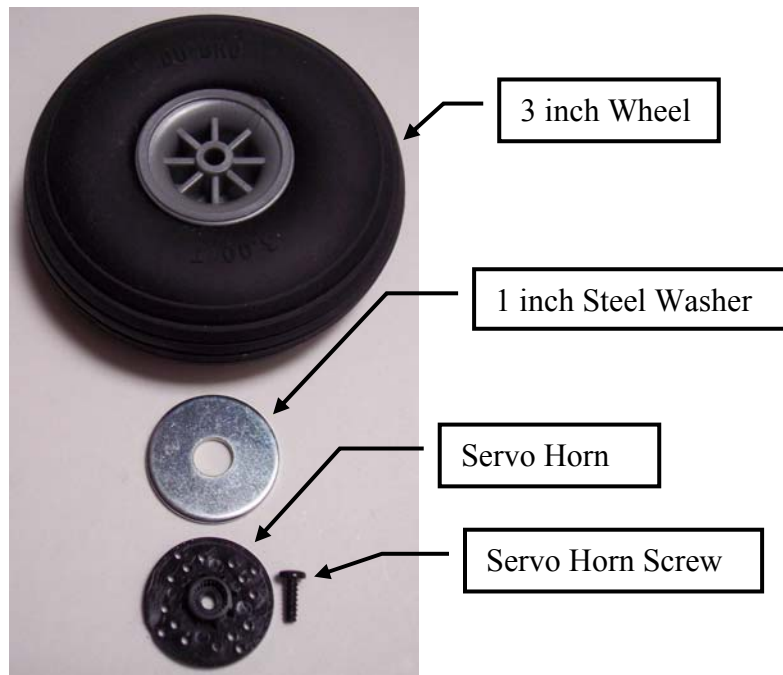

Figure 37. A Servo Horn and a 1 inch steel washer superglues to the wheel hub to allow mounting on a wheel servo.
1. (Figure 37) Collect two each of Servo Horns, servo horn screws, 1 inch steel washers and rubber-tired wheels.